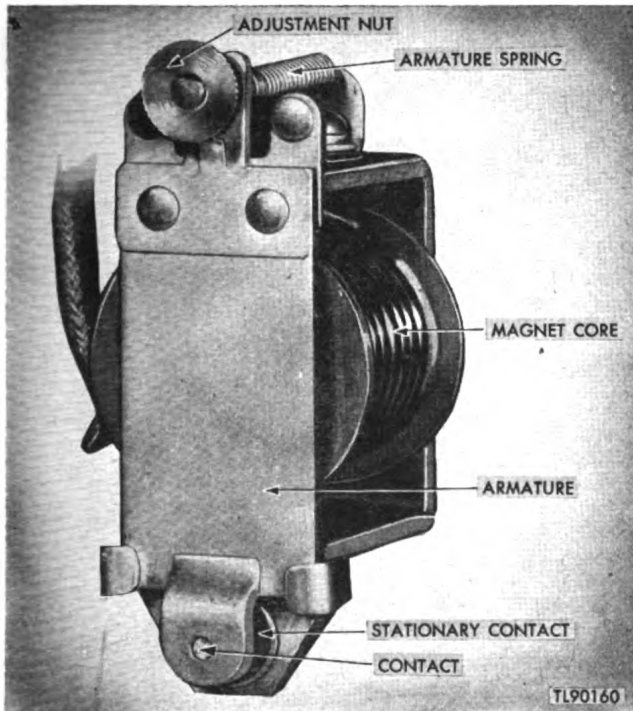

Figure 66. Reverse current cut-out in control box.
(4) The regulator is adjusted to provide correctly generated voltage with the power unit operating in surrounding temperatures of from 77° F., to 86° F. (25° C. to 30° C). The regulator will operate over a wide range of temperatures without further adjustment. However, for operation in extremely hot or cold climates, a re-adjustment may be necessary.
69. Battery Cut-Out (fig. 66)